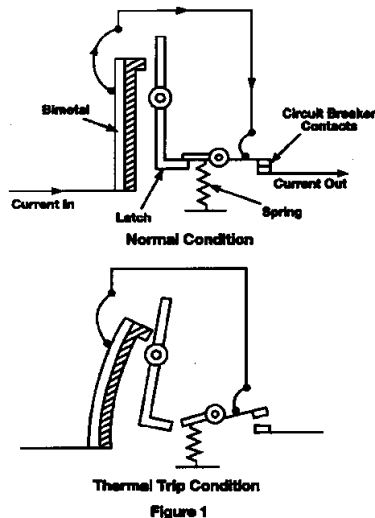

Figure 1
**Thermal Trip:** The circuit breaker thermal trip element is an rms (root mean squared) current sensing device. The thermal element or bimetal is constructed from metals of dissimilar rates of expansion bonded together. The thermal element responds to overloads by reacting to the heat generated both by the current flowing through the circuit breaker and by the heat contribution from ambient conditions. The bending force of the bimetal causes the circuit breaker to trip. (See Figure 1.) The deflection of the bimetal is predictable as a function of current and time. This is the inverse time tripping characteristics of the thermal element (i.e., the tripping time decreases as the magnitude of the current increases).